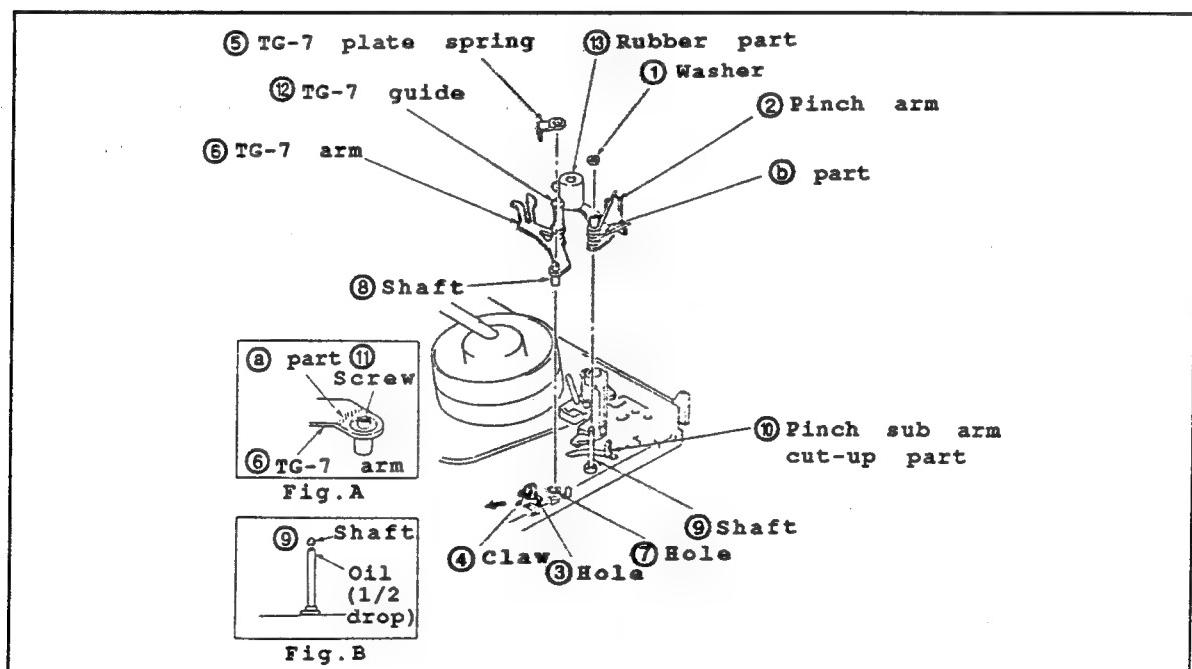

Fig.II-14
- Disassembling (Fig.II-14)
- (1) Set the unloading state.
- (2) To take off the pinch arm ②, remove the washer ①.
- (3) To detach the TG-7 plate spring ⑤, bend the claw ④ of hole ③ by using a thin screwdriver or equivalent.
- (4) Detach the TG-7 arm.
- Reassembling (Fig.II-14)
- (1) Apply the grease on the inside and the bottom surface of the hole ⑦.
- (2) Insert the shaft ⑧ of TG-7 arm ⑥ to the hole ⑦.
- (3) Apply the grease on the shadowed area ⑩. (Fig.A)
- (4) Insert the TG-7 plate spring ⑤ to the hole ③.